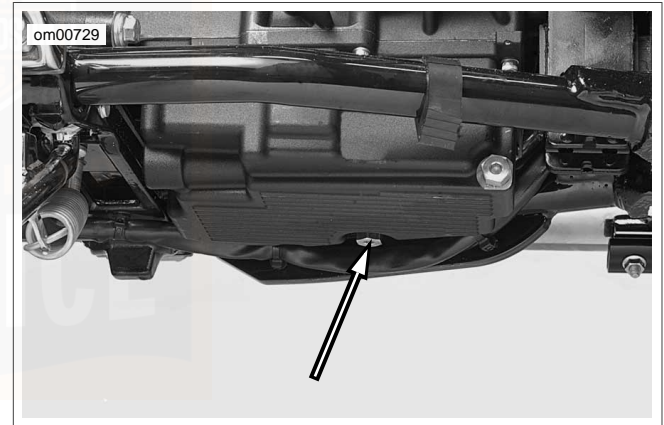

Figure 28. Transmission Drain Plug
2. See Figure 28. Remove transmission drain plug and drain lubricant into a suitable container.